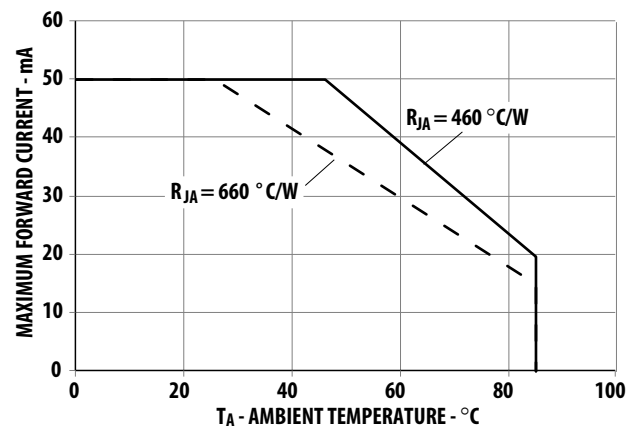
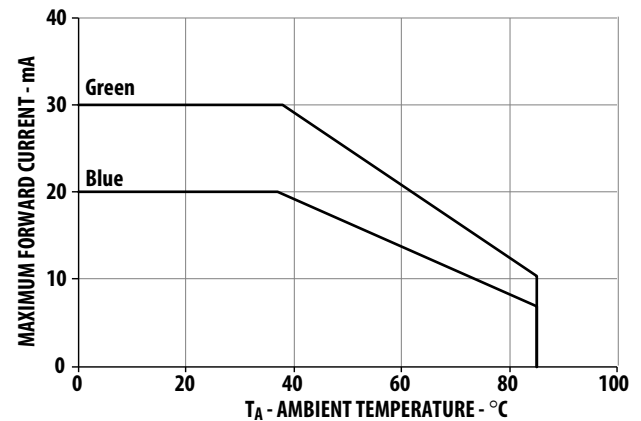

Figure 4. Maximum Forward Current vs. Ambient Temperature
Figure 9. Maximum Forward Current vs. Ambient Temperature
1. Derate linearly as shown in Figure 4 and Figure 9.